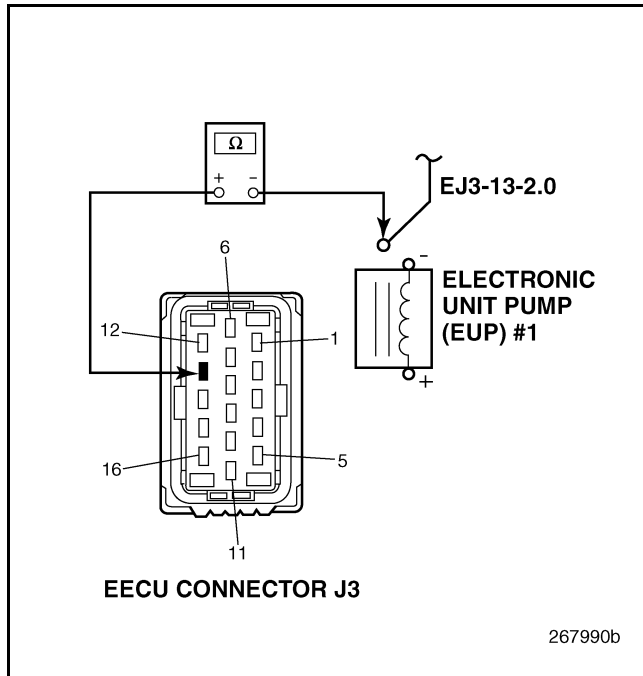

Figure 751
4. Check for continuity between circuit EJ3-13-2.0 at the EUP Solenoid 1 and EECU harness connector J3 pin 13 (see Figure 751).